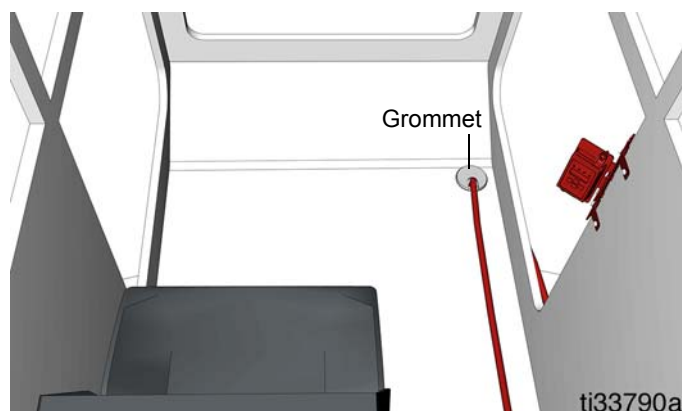

FIG. 16
1. Route the power cable from the pump through the body of the machine and under the cab to protect it from the environment and to aid in wiring into the cab. For installations utilizing a proximity switch and a GLC2200 controller, route the prox cable along the same path as the power cable (FIG. 16).
2. Route the power cable into the cab through the rubber grommet located under the floor mat (FIG. 16).